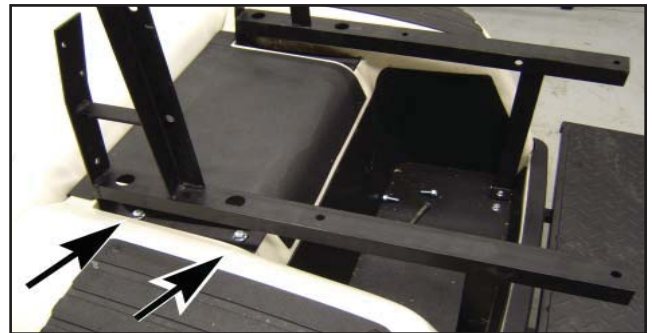

Fig. 3 - Install Seat Back /Deck Supports
- 2) Install the new seat back supports using 4 bolts, through the mounting holes on each bracket. ONLY finger tighten hardware at this time. See Fig. 3. You will need the following hardware:
NOTE: Be sure the right support is located on the passenger side and the left is installed on the drivers side. Look closely at these brackets in figure 3.